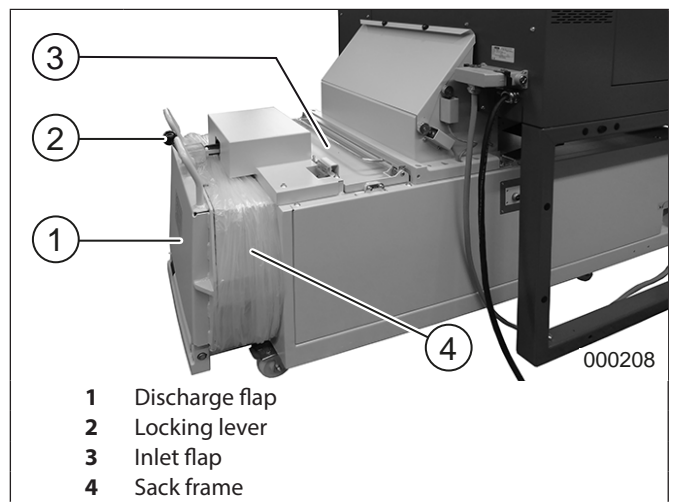

fig. 20 Opening the discharge flap
1. Open the inlet flap (fig. 20/3).
6. Close the inlet flap (fig. 20/3).
### Opening the discharge flap (fig. 20/1):
tance in reverse, and the locking lever (fig. 20/2) travels a short distance forward in order to relieve pressure at the discharge flap.
1. Close the inlet flap (fig. 20/3).
2. Open the discharge flap (fig. 20/1).
4. Remove the sack from the sack frame (fig. 20/4).
5. Close the discharge flap (fig. 20/1), as well as the inlet flap (fig. 20/3), if the shredder is to be used.